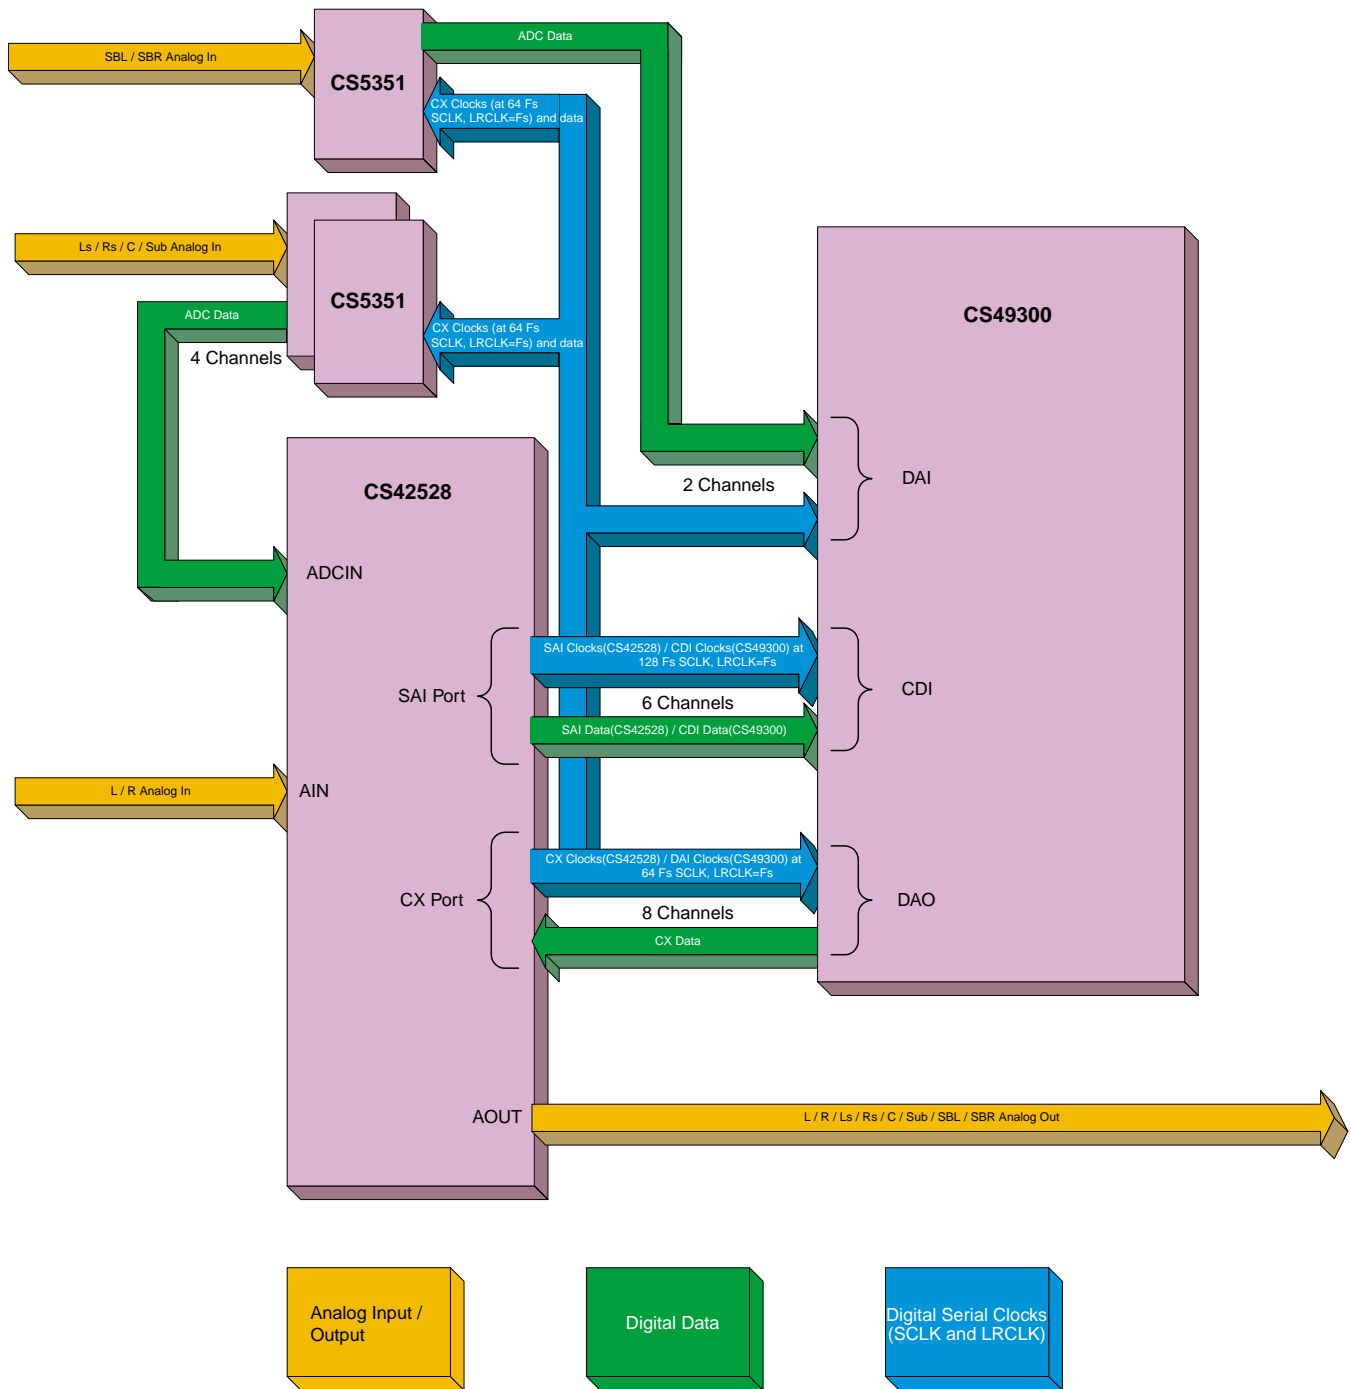

Figure 4. Data and Clock Connections for 8 Channel Analog Input and Output
A detailed diagram of the clock and data connections for analog input mode can be found in Figure 4, “Data and Clock Connections for 8 Channel Analog Input and Output,” on page 10. When Analog Input Mode is used, the CRD42528 will process up to 8 channels of analog input. The analog source is the analog I/O connectors on the UDSP MainBoard, which are routed directly to the CRD42528. The Left (L) and Right (R) analog inputs are connected, via input filters, to the CS42528’s analog input pins. When 6 channel (referred to as 5.1 channel) input is desired, two external CS5351 Analog to Digital Converters are used. These external ADCs receive the RMCK output from the CS42528. In this mode, RMCK will pass through the 12.288 MHz oscillator connected to OMCK. The external ADC serial ports are driven from the CS42528’s CX port clocks. The Left Surround (Ls), Right Surround (Rs), Center (C), and Subwoofer (Sub) inputs to the CRD42528 are connected to the external CS5351’s analog inputs, and the digital outputs from the two external CS5351s is then connected to the CS42528’s ADCIN1/2 pins. The CS42528 will incorporate all of the data from the external ADCs and its own analog input data onto a single line and send it to the DSP via the CS42528’s SAI port. In this way, the DSP gets the L, R, Ls, Rs, C, and Sub channels into its CDI port. For 7 or 8 channel (6.1 or 7.1 channel) operation, another external CS5351 is used to convert the Surround Back Left (SBL) and Surround Back Right (SBR) analog inputs. Please note that many appli-